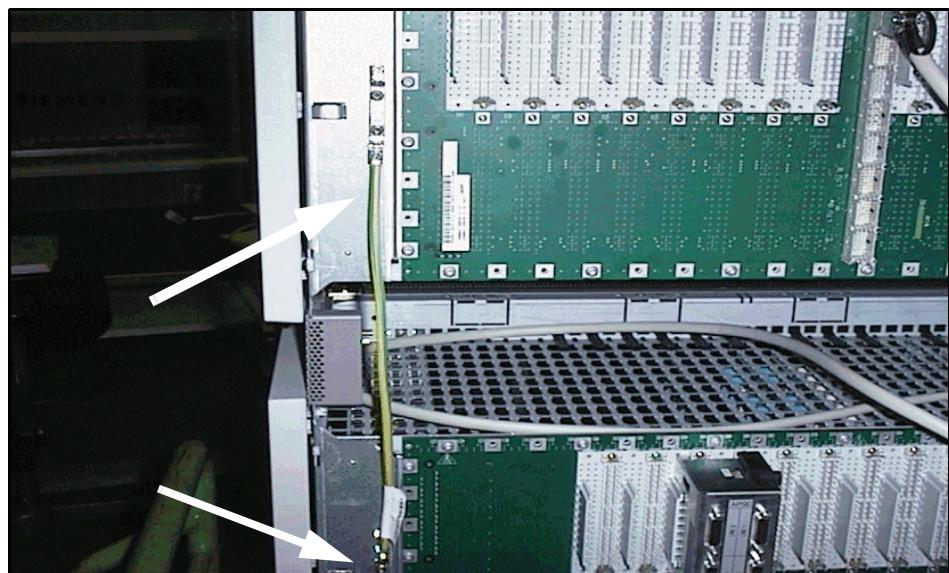

Figure 7
An internal ground conductor between the base cabinet and the expansion cabinets is supplied ex-works. See Figure 7.
3. Attach the remaining grounding wires to the expansion cabinets (see Figure 7).